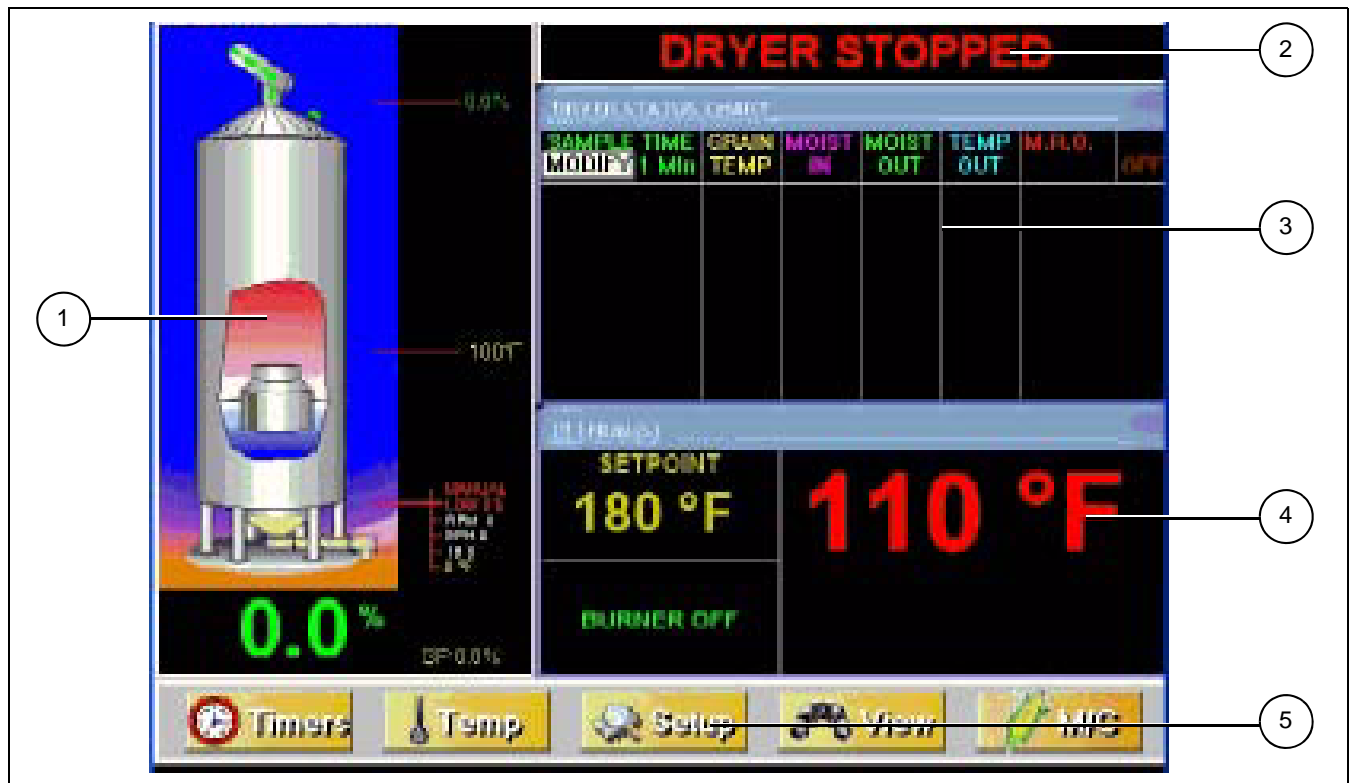

Figure 6B
1. **Table view:** Default operation screen view. (See Figure 6B on Page 26.)
6. Press  then  to return to the operation screen. (See Figure 6B on Page 26.)
4. Press  then  to return to the operation screen. (See Figure 6B on Page 26.)